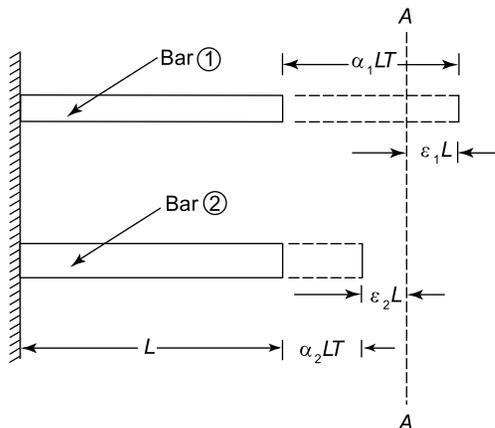

Figure 2.13 'Deflections' of compound bar
There are two unknown forces in these bars, namely F_1 and F_2 ; therefore, two simultaneous equations will be required to determine these unknown forces. The first equation can be obtained by considering the compatibility (i.e. 'deflections') of the bars, with the aid of Figure 2.13.
In practice, however, the final resting position of the compound bar will be somewhere in between these two positions (i.e. at the position A–A in Figure 2.13). To achieve this, it will be necessary for bar (2) to be pulled out by a distance $\epsilon_2 L$ and for bar (2) to be pushed in by a distance $\epsilon_1 L$, where
From considerations of compatibility ('deflection') in Figure 2.13,